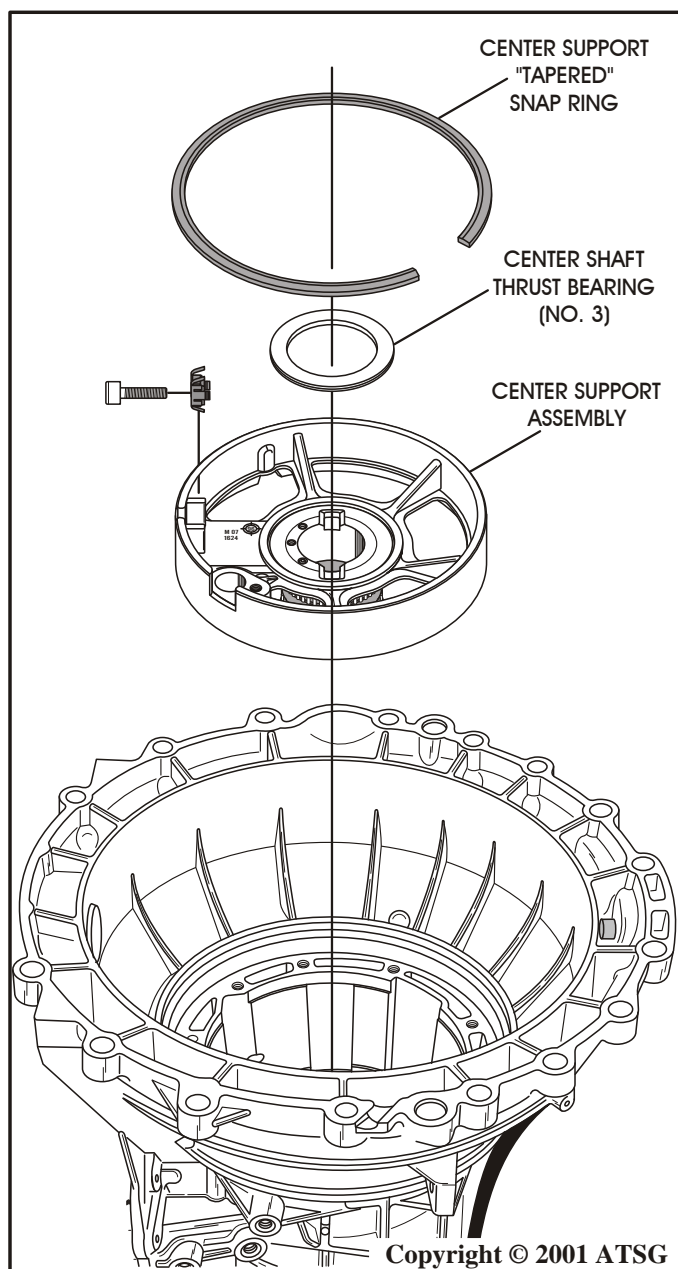

Figure 156
39. Install the center support assembly, ensuring that you align the hole for the center support with the proper passage (See Figure 156).